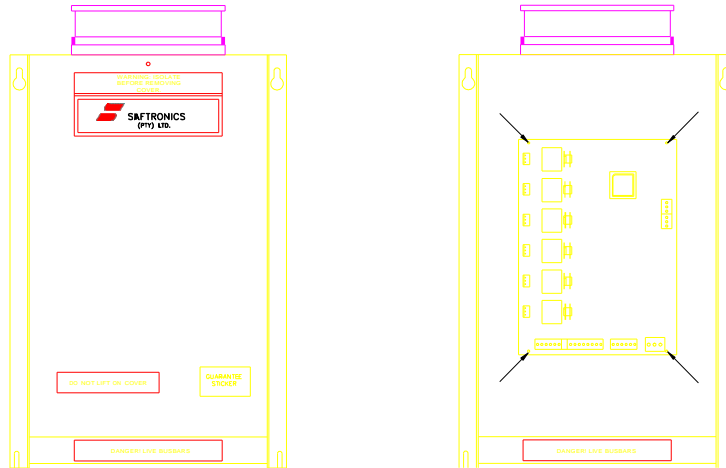

FIG 2.5
Remove the PC550 Control Card by unscrewing the 4 screws (1) as indicated in Fig. 2.5.